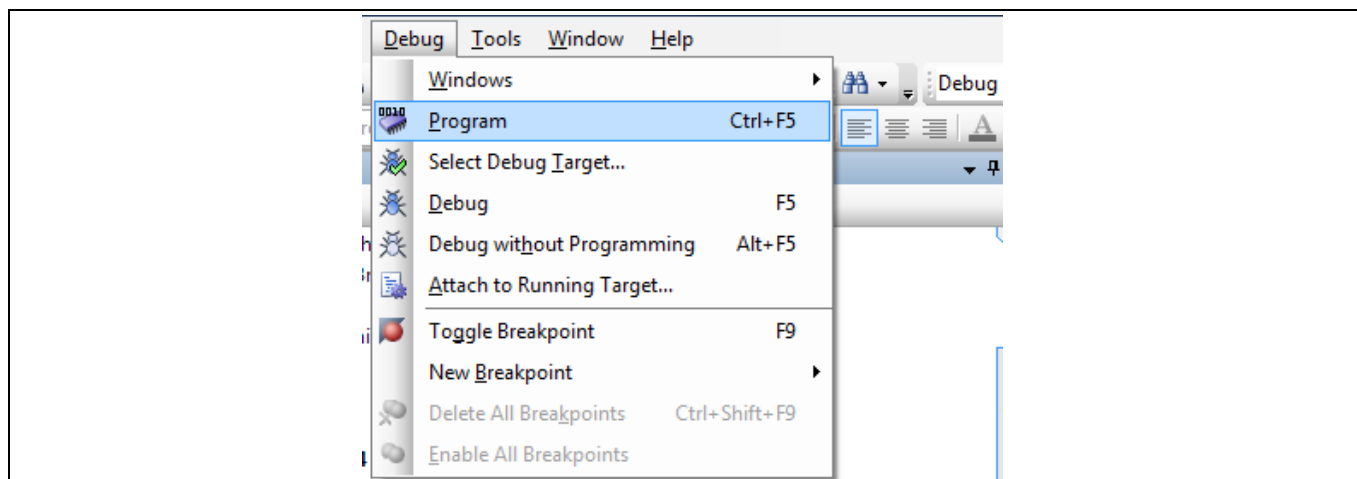

Figure 15 Programming using PSoC Creator
6. Choose **Debug > Program** in PSoC Creator as shown in Figure 15.